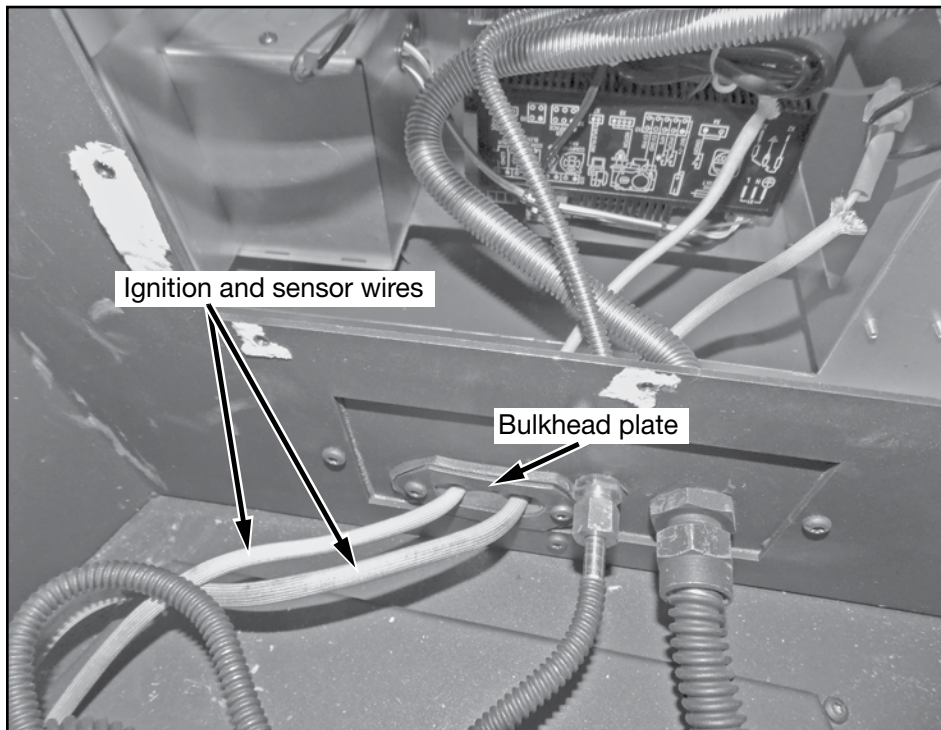

Figure 7: Ignition and sensor wire routing.
5. Feed the ignition and sensor wires through the bulkhead plate to the interface module. Tuck the ignition and sensor wires below the supply tubes (Figure 7).